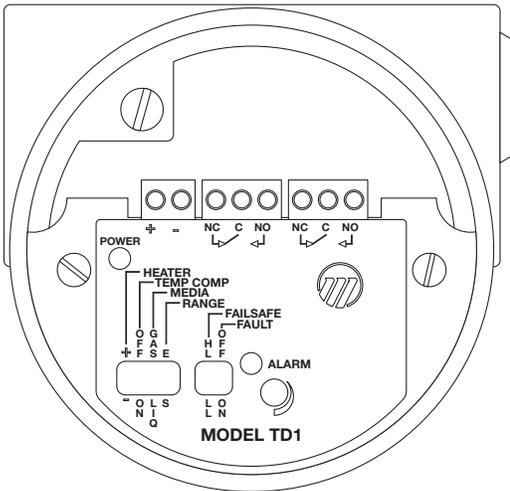
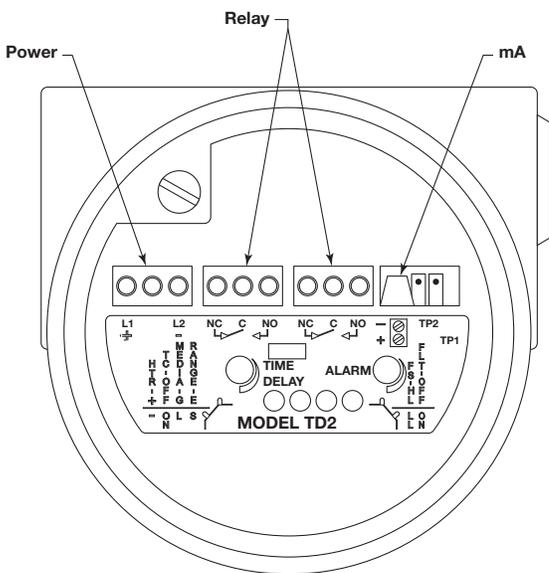

Figure 6
Figure 7
4. Connect power leads to proper terminals. Refer to Figure 6 for TD1 or Figure 7 for TD2 electronics. Note that the TD1 is only available with 24 VDC input power. The TD2 is available for AC power (100 to 264 VAC) or as a DC power (19.2 to 28.8 VDC).
5. Perform Relay Connections (refer to Figure 6 for TD1 or Figure 7 for TD2 electronics).
Wiring of the mA output is shown in Figure 7 on page 6. Wiring should be 16 to 26 AWG.